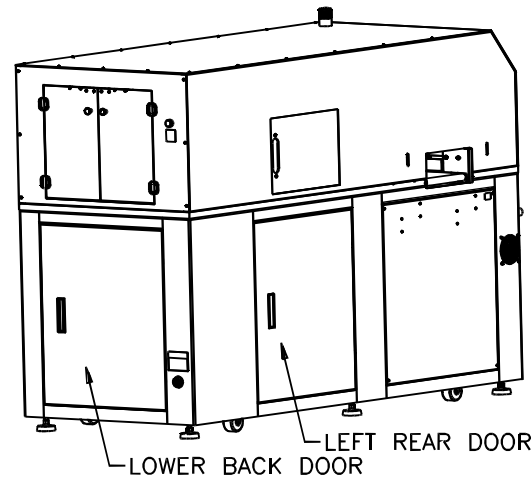
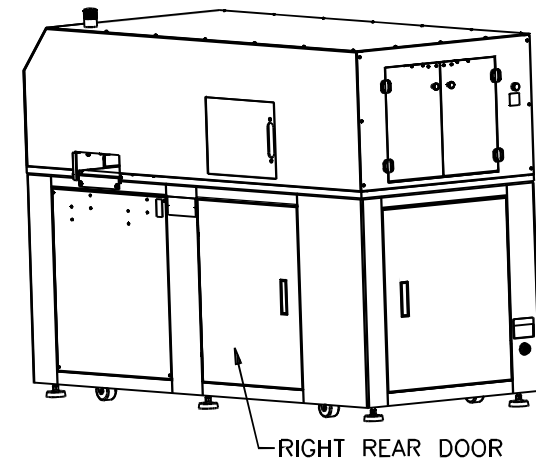
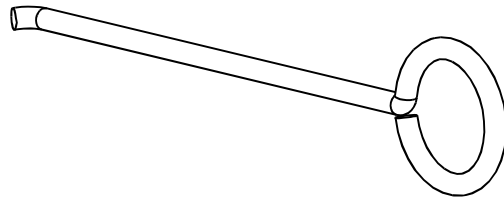

Figure 4-2. Waste Bin Locations
Figure 4-3. Waste Bin Location
Figure 4-4. Cut Stick Puller
2. Wheel a cart to any of the three waste bin locations. One is located at both the rear, right-hand and left hand sides of the machine. The remaining waste bin is located at the back of the machine. Figure 4-2 and Figure 4-3 show the waste bin locations.
The cut stick can be rotated 8 times before disposal. It is located under the face knife, accessed through set of double doors at the back of the machine. The cut stick puller provided with the machine is used to remove the cut stick. The cut stick and other tools are located on the inside of the left rear door that is shown in Figure 4-2. The cut stick puller has a finger hold and hook as shown in Figure 4-4.